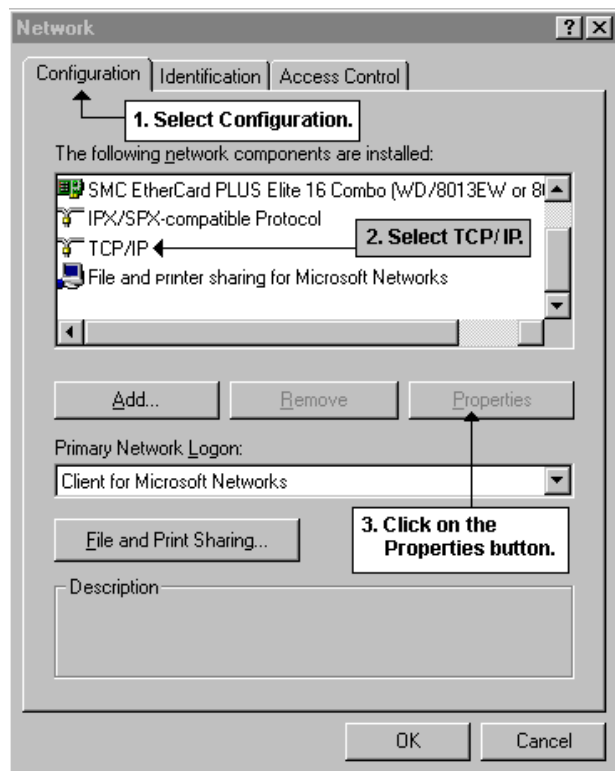

Figure 3-7 Windows 9x®
- a. For Windows 95® or 98®: Select **Configuration| TCP/IP| Properties**. (Figure 3-7)